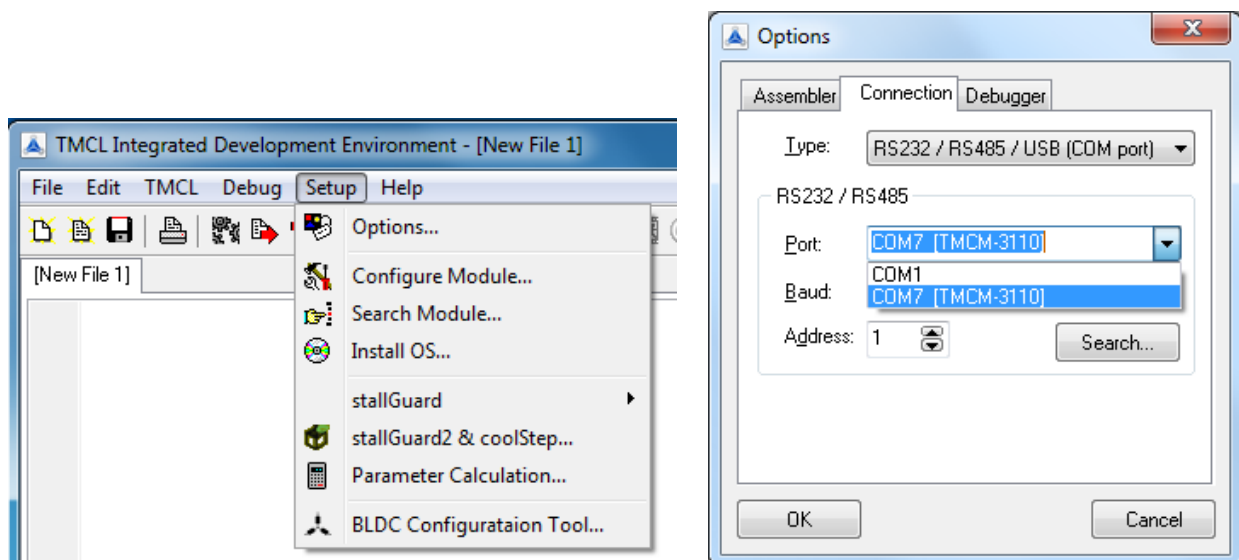

Figure 1.4 Setup dialogue and connection tab of the TMCL-IDE.
- Choose **COM port** and **type** with the parameters shown in Figure 1.4 (baud rate 9600).